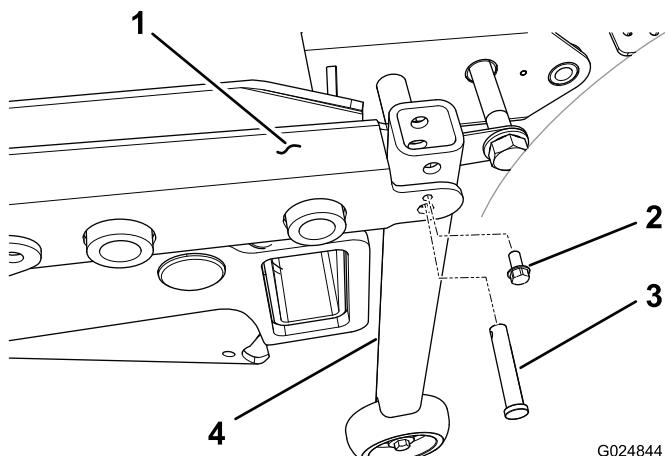

Figure 98
5. On traction units that have a serial number prior to 312999999, install the vertical tube support assembly to each rear corner of the deck frame with a clevis pin and a self-tapping screw, 1/4 inch (Figure 98).